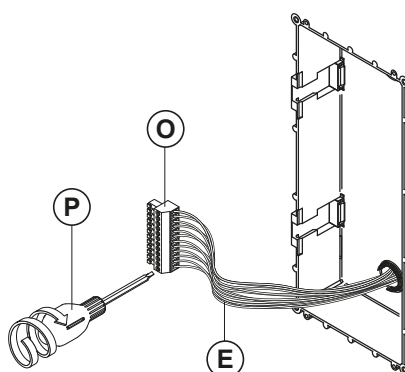
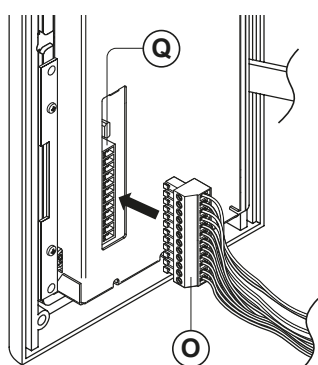

Fig. 61
Fig. 66
5. Next take connecting cables (E) and make the required terminal connections into the terminal block (O) using the screwdriver provided (P) (using the flat blade end), as shown in **Fig.61**;
9. Plug the terminal block (O) (from step 5, **Fig.61**) into the module's terminal block connector (Q), as shown in **Fig.66**. Make any other necessary panel adjustments required (connecting the antenna cable, fitting the SIM card and setting the dip-switches etc.);